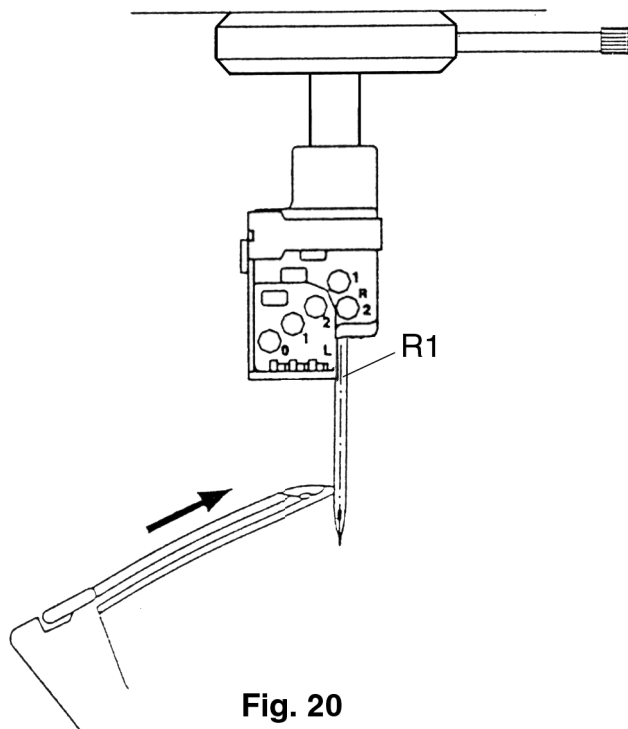

Fig. 20
- Push the needle rise clamp up against the machine's housing and secure lightly (fig. 20).
- The looper point 2 must now be positioned in the exact middle of the right needle, when the handwheel is turned back and forth (fig. 20).